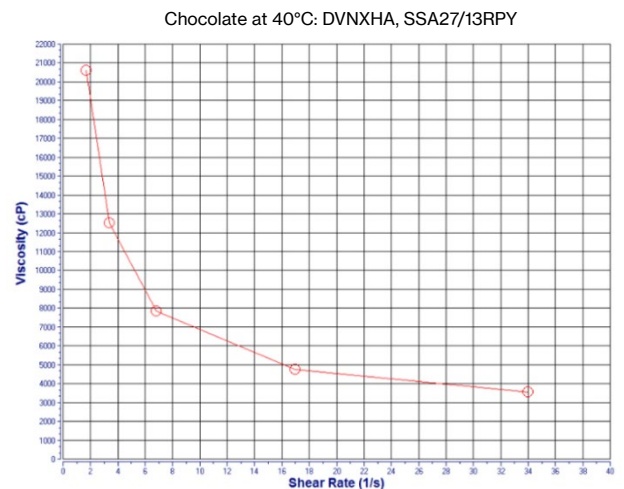

Figure 1: Dark Chocolate Viscosity at 40°C
- Figure 1: Viscosity of dark chocolate decreases as shear rate increases, showing "shear-thinning" behavior.
- Figure 1: Dark Chocolate Viscosity at 40°C, demonstrating shear-thinning.